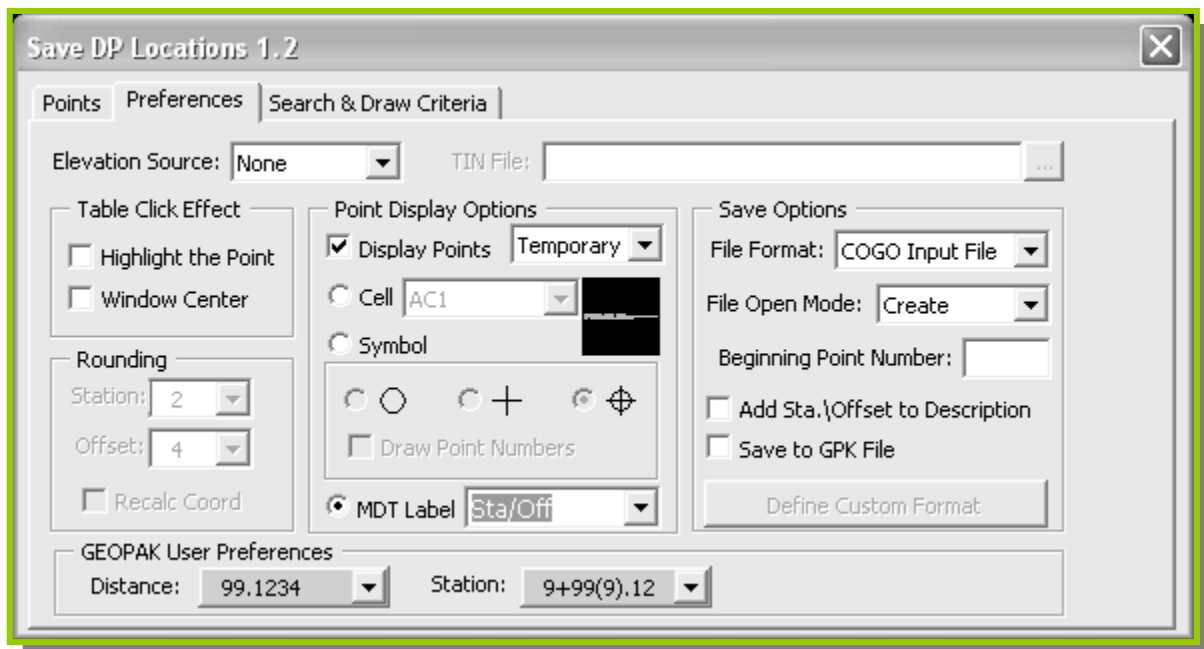

Figure 34
8. Return to the Preferences tab to choose settings for calculating easement points. Set the “**MDT ROW LABEL**” Point Display Option to “**STA/OFF**”. (See Figure 34)